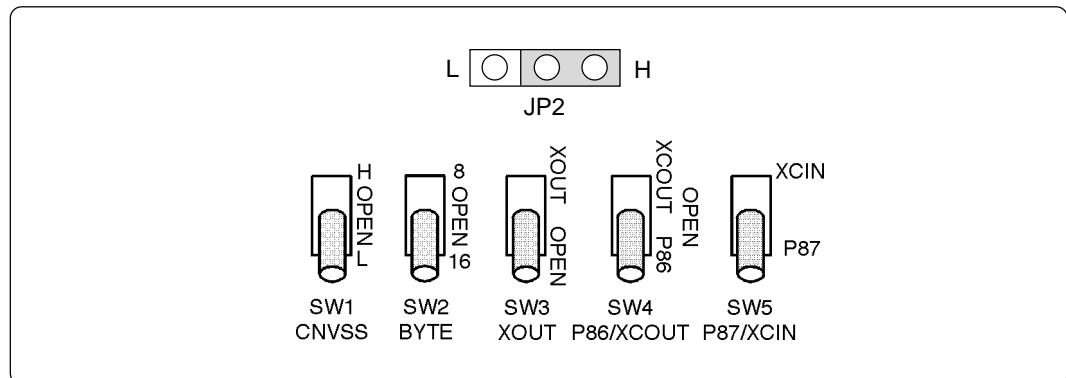

Figure 4.3 Switch settings when running self-checks (factory-settings)
- (1) Set the switches in the emulation pod same as the factory-setting (see Figure 4.3).
- (2) When the target system is connected, disconnect the target system.
- (3) Within 2 seconds of activating power to the emulator, press the RESET switch on the emulator front panel to switch the emulator to the maintenance mode.
- (4) Check the "SAFE" LED starts blinking and then press the RESET switch again.
- (5) The self-checks will start. If the normal result is displayed in about 40 seconds, self-checks terminated normally.
- Check if the switches in this product are set same as the factory-settings (Figure 4.3).